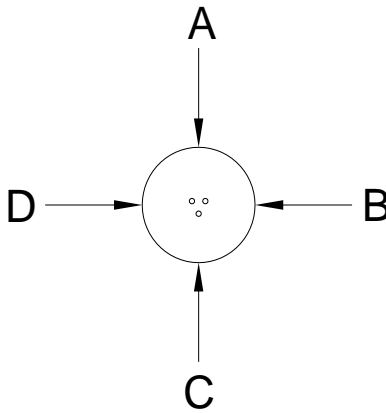

Figure 8-6, Static Port Measurement locations
The static port measurements are obtained at four locations on each static port as shown in Figure 8-6. These measurements are used to find an AVERAGE and ANGLE for each of the four static ports. The AVERAGE is calculated by adding the four measurements and dividing the total by 4. The ANGLE is calculated by subtracting the minimum measurement from the maximum measurement. The calculated AVERAGE and ANGLE for each static port must fall within the ranges shown in Figure 8-7.
3. For each static port, measure the static port height at the A, B, C and D locations as shown in Figure 8-6. Record the measurements in the measurement log, Figure 8-7.